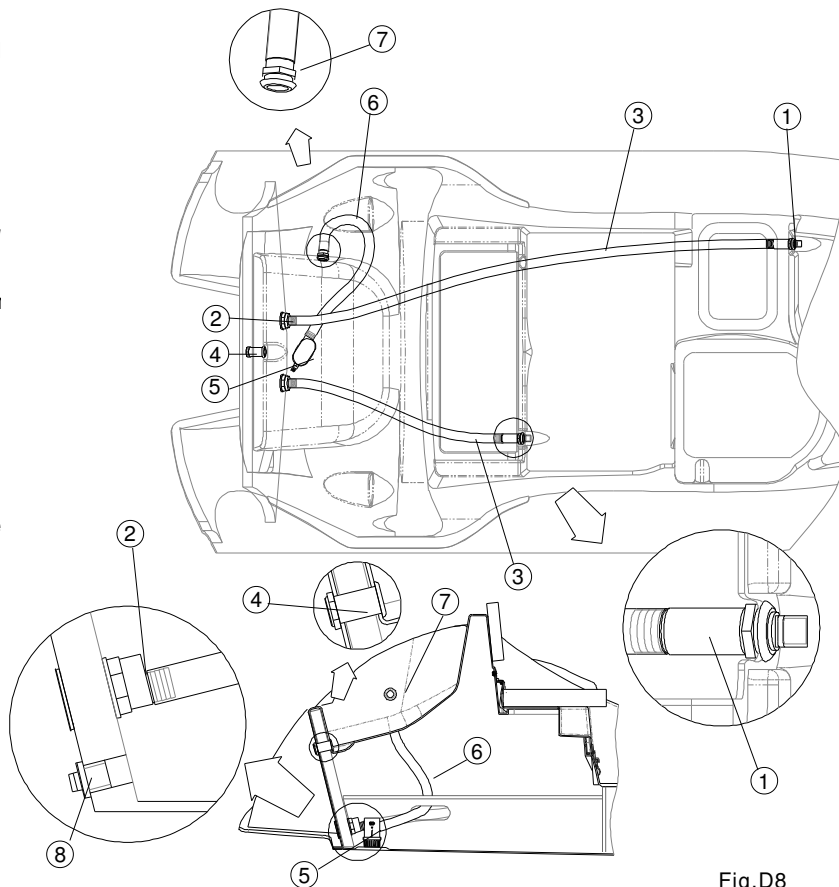

Fig.D8
Drain system, (Fig. D8), consists of the three independent systems:
<p>Bilge valve (8)(Fig.D8) should be tightly CLOSED when the boat on the water</p>
<p>Bilge valve (8)(Fig.D8) should be open when the boat is out of the water</p>